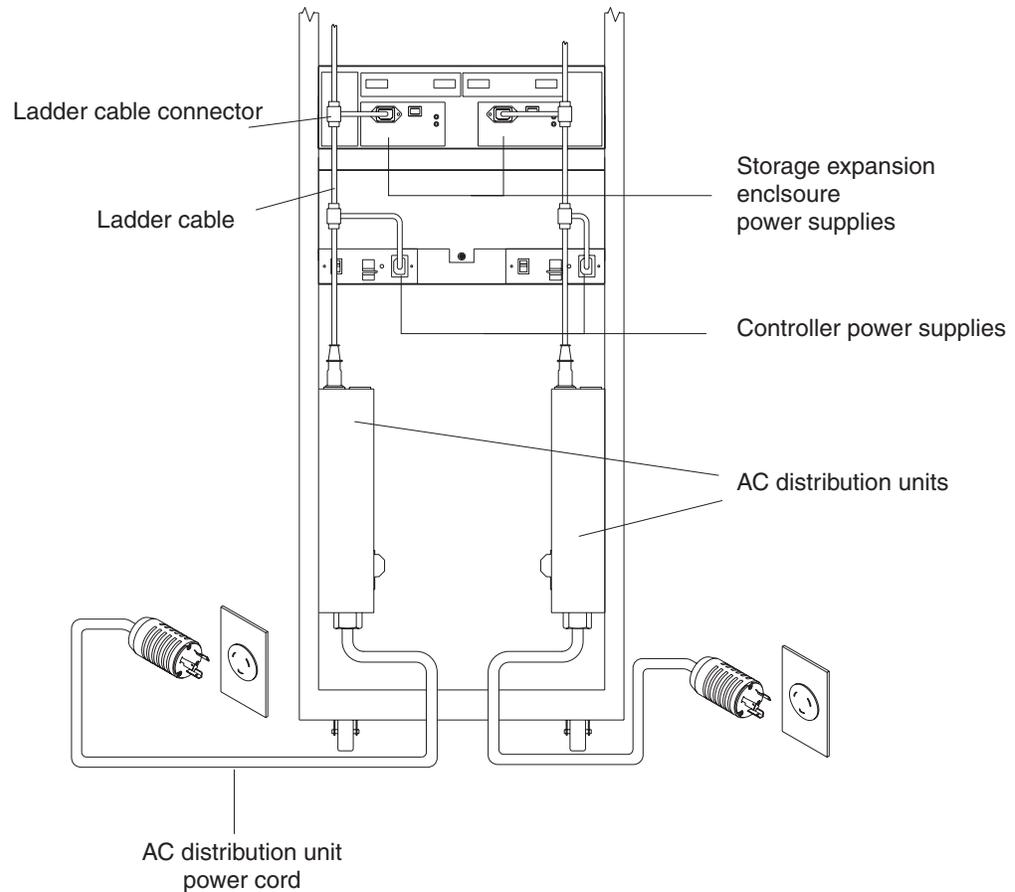

Figure 72. Redundant ac power connections to controllers and storage expansion enclosures
ac distribution units inside a rack cabinet or directly into external receptacles. Similarly, the right and left power supplies of the DS4000 storage expansion enclosures attached to the DS4300 storage subsystem should be plugged into the same two independent external power circuits as the DS4300 storage subsystem. See Figure 72 for an example of redundant power cabling.
- **DS4300 models 60U/60X only:** To maintain power redundancy, plug the DS4300 storage subsystem’s right and left power supplies into two independent external power circuits through ac distribution units inside a rack cabinet or directly into external receptacles. Similarly, the right and left power supplies of the DS4000 storage expansion enclosures attached to the DS4300 storage subsystem should be plugged into the same two independent external power circuits as the DS4300 storage subsystem. This ensures that the DS4300 storage subsystem and all its attached storage expansion enclosures will have power if only one power circuit is available. In addition, having all the right or all the left power supplies plug into the same power circuit will enable the components in the storage subsystem to power on simultaneously during an unattended restoration of power. See Figure 72 on page 86 for an example of redundant power connections.